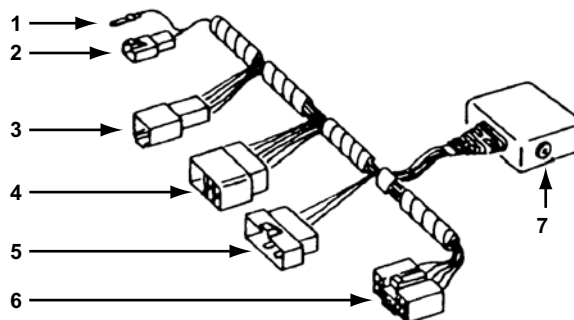

Figure 15-13 MT2500-42 MULTI-2 Asian adapter
- “Connections Using the MULTI-2 Adapter” on page 181 (Figure 15-13)
connector. Connect a 12 volt power cable (Figure 15-11, Figure 15-12) and the ground adapter (Figure 15-10) as shown in Figure 15-13. See Table 15-9 for applicable vehicles.